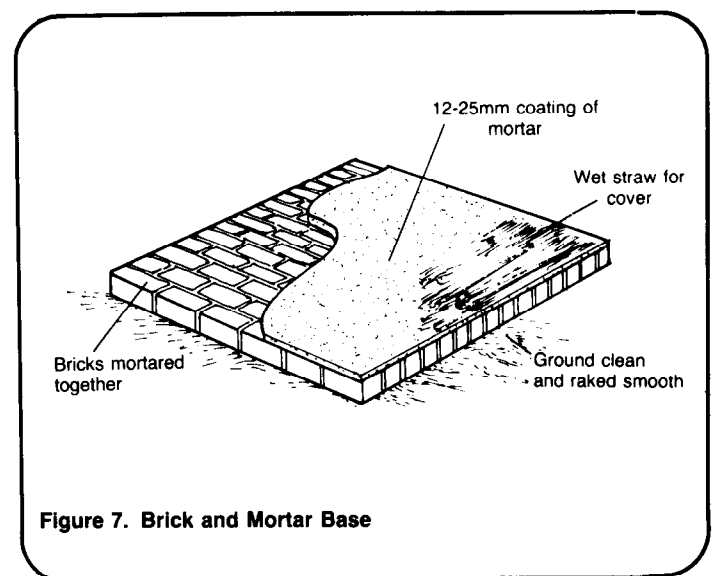

Figure 7. Brick and Mortar Base
4. Plaster the top of the base with a 12-25mm thick layer of cement mortar. Smooth with a trowel, cover with wet straw, burlap bags or equivalent, and keep moist for one to three days. See Figure 7.